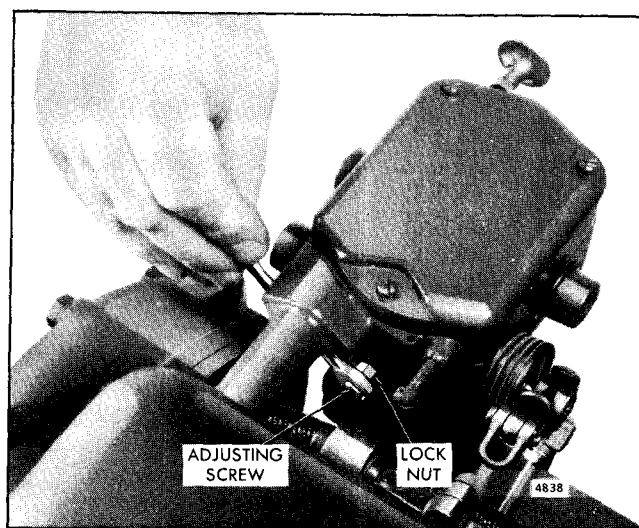

Fig. 5 - Adjusting Maximum No-Load Speed
3. Loosen the locknut and back off the maximum speed adjusting screw approximately 3/8" (Fig. 5).